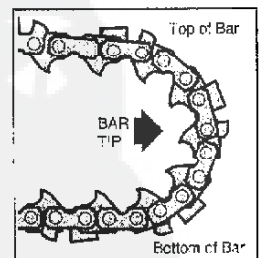

Figure 11
3. Install the chain loop over the drive links within the guide bar groove, and then align the chain over the drive sprocket. Make sure the cutters are properly oriented as shown in Figure 11. If the chain installation is difficult or if the chain appears too tight, refer to the section "Adjusting the Chain" on the next page.